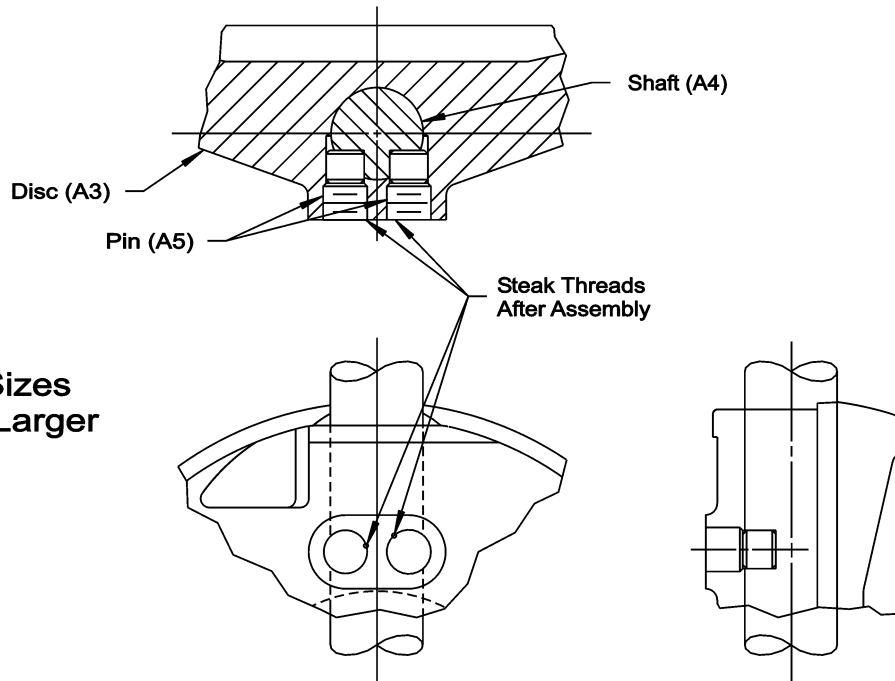

Figure 15 – Disc Pin Assembly
13. Remove the disc pin—see Figure 15 (page 29):
- b. Place the disc pin (A5) in the hole in the disc (A3) as shown in Figure 15 on page 29 and tap the end of the pin lightly to seat the pin against the flat on the shaft (A4). A new set screw (A24) is required.
- e. As shown in Figure 15 (page 29), stake the end of the set screw threads once with a pointed punch to secure the set screw in position.
- c. Use two new pins and turn the pins into the threaded holes in the disc (A3) and against the slots in the shaft (A4) as shown in Figure 15 (page 29).
- e. As shown in Figure 15 (page 29), stake the screw threads on each disc pin once with a pointed punch to secure the pins in position.
5. Replace pin (A46) in valve shaft (A) (does not apply to valves with stepped shafts).